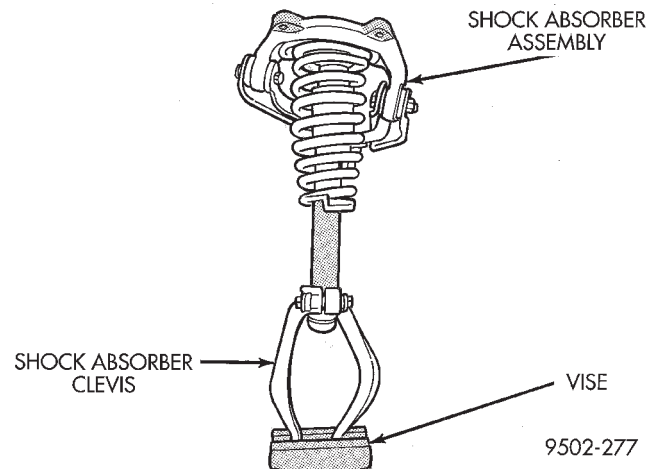

Fig. 17 Shock Absorber Correctly Mounted In Vise
(11) Install clevis bracket back on shock absorber and tighten pinch bolt. Then using the clevis bracket, clamp the shock absorber assembly in vise, with shock absorber in a vertical position (Fig. 17).